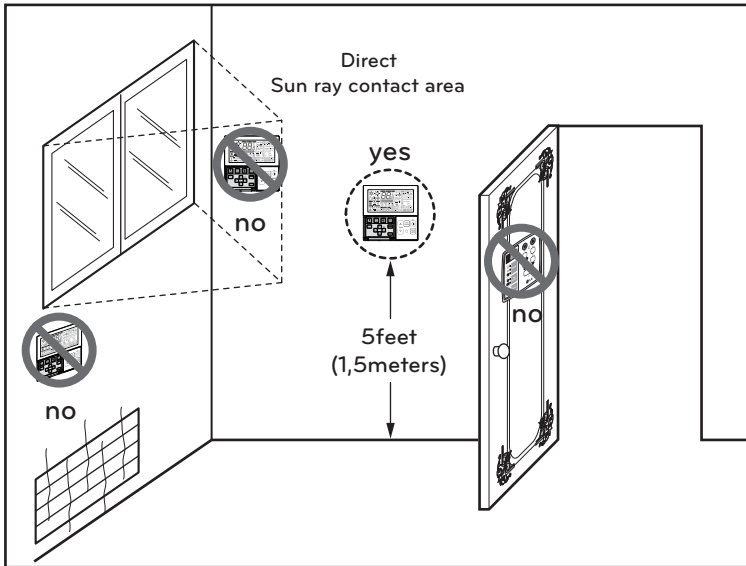

Figure 5 Typical locations for remote controller
- This remote controller is equipped with a seven segment LED display. For proper display of the remote controller LED's, the remote controller should be installed properly as shown in Fig.5. (The standard height is 1,2~1,5 m from floor level.)